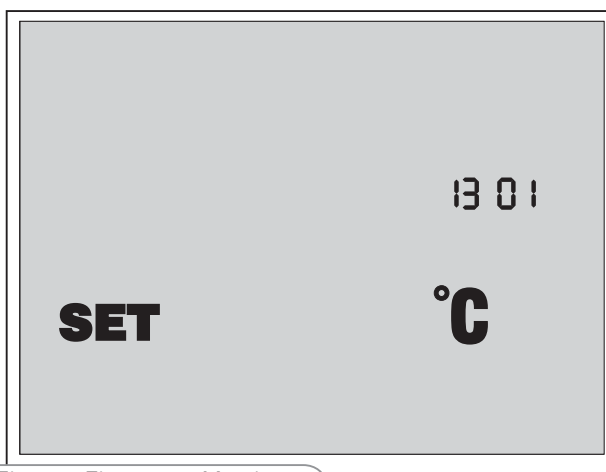

Fig. 14. Firmware Version
- Press the  button to display the controller circuit execution code and the firmware version code on the wall-mounted control panel screen (Fig. 14).